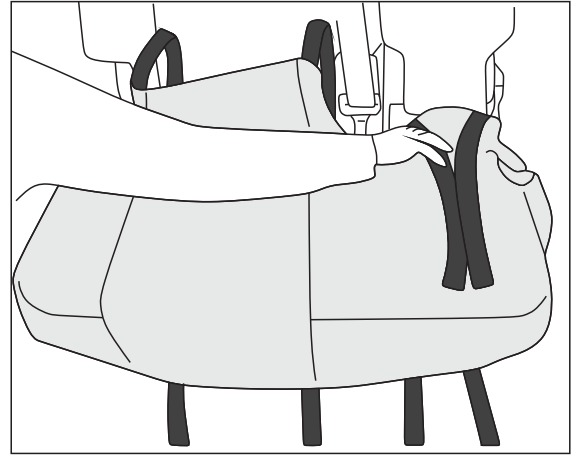

Fig. 12
12. Align the larger base cover to the seats contours and roll around the edge of the seat. Push the middle parts of the base cover through in-between the seat base and backrest. (Fig. 12)